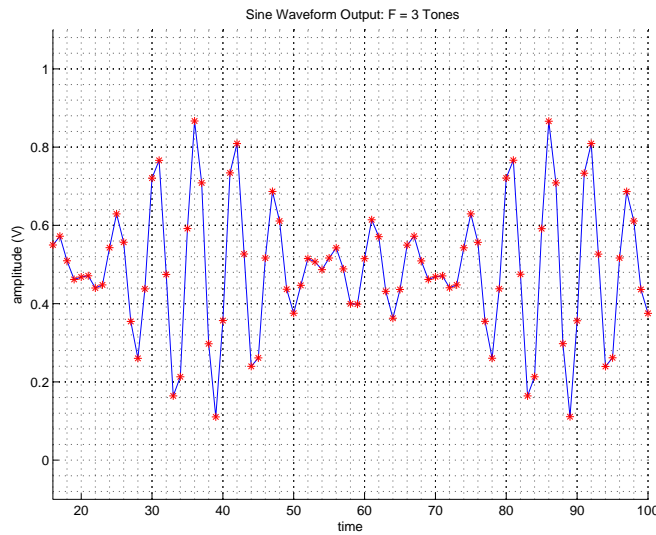

Figure 4.24: Measured: ADS5463 Digitized 80MHz, 90MHz, and 100MHz Sine Wave; Time Domain
- i. Sine Waveform @ $F = 80\text{MHz}$, 90MHz , and 100MHz ; Time Domain (See Figure 4.24.)